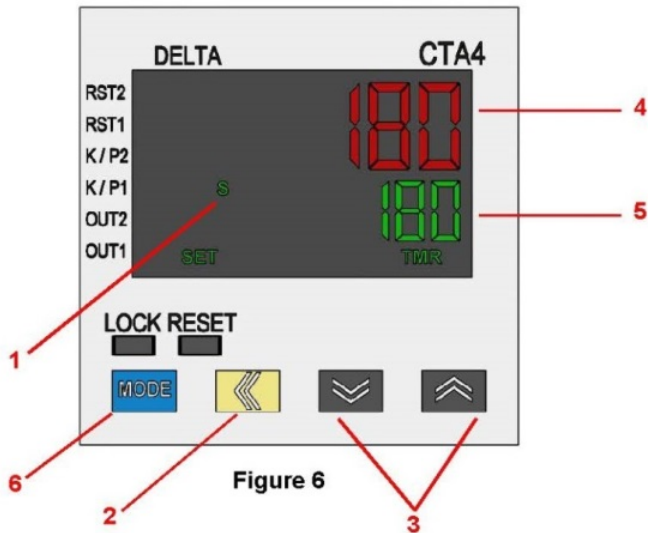

Figure7: Front View – CTA4 Timer Control
3. Press the yellow, left arrow button (Item 2, Figure 7) to enter the set mode. The first digit to the right column on the Set Value Display (Item 5, Figure 7) will begin to flash.
4. Press the UP or DOWN arrow buttons (Item 3, Figure 7) to set the first digit on the selected column.
7. Once desired set value time is showing on the display, press the blue MODE button (Item 6, Figure 7) to set the time.